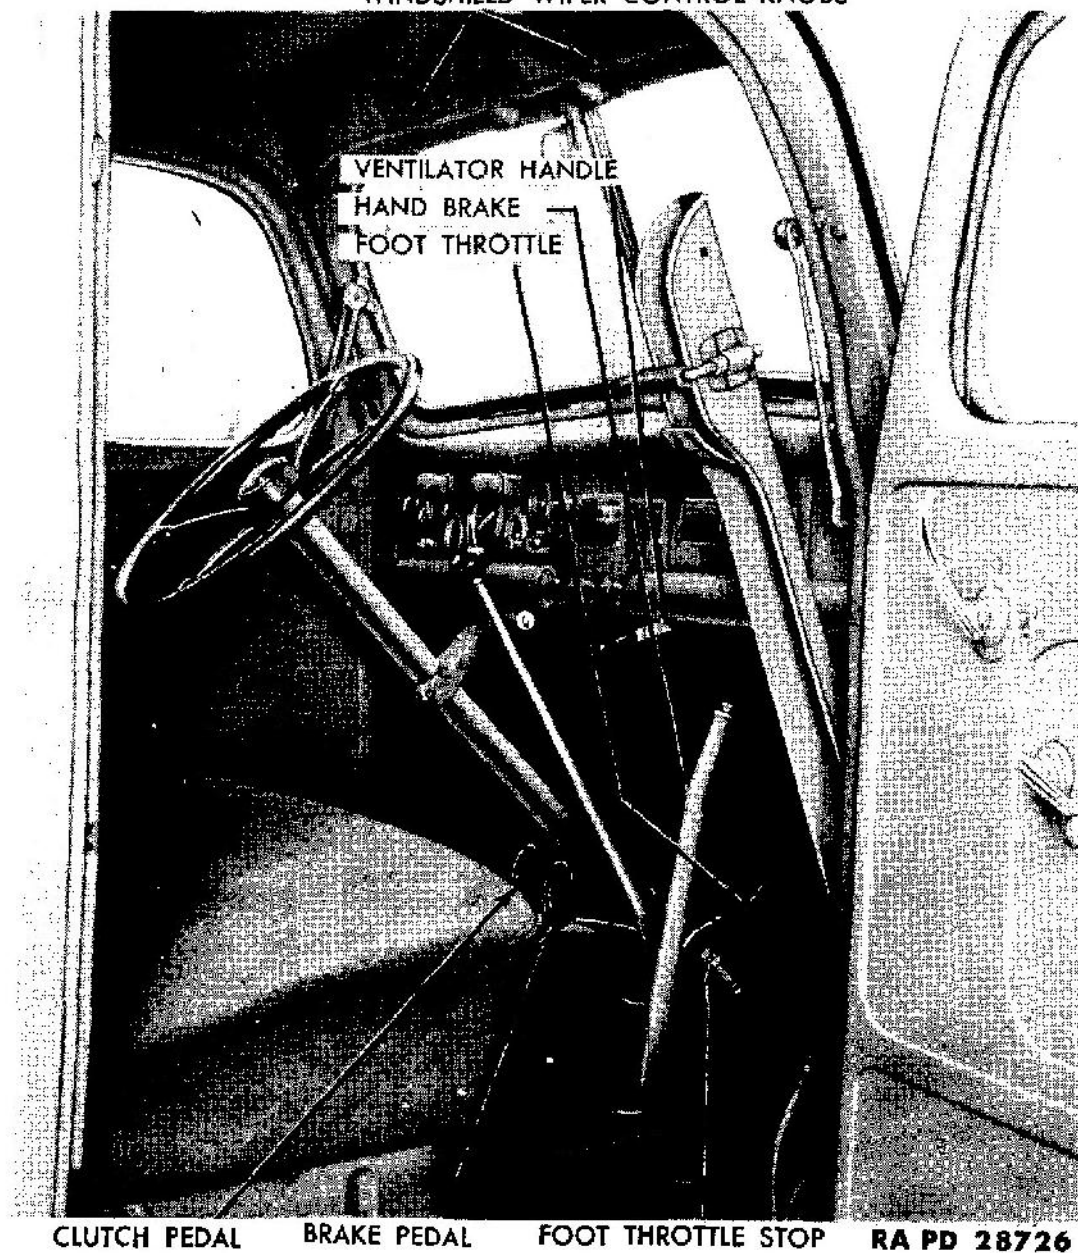

Figure 3 — Driver's Compartment
with dual wheels and tires. The driver's cab is a conventional truck cab equipped with safety glass in doors and windshield. The instruments are located in the instrument panel directly in front of the driver's seat (fig. 3).
b. **Hand Brake Lever (fig. 3).** The hand brake lever is mounted to the right of the gear shift lever directly below the instrument panel. Always be sure the hand brake lever is released before attempting to move the vehicle.
c. **Throttle Controls.** The foot throttle is located to the right of the steering column convenient to the driver's right foot. A foot rest is provided to the right of the foot throttle (fig. 3) to steady the foot while driving. The hand throttle button is located on the instrument panel directly below the ignition switch. Pulling this button out opens the carburetor throttle and increases the engine speed. During cold weather the throttle button should be pulled out approximately $\frac{1}{4}$ inch so that the engine will idle somewhat faster until it is entirely warmed up. The hand throttle can also be used when it is desired to run the engine at constant speed.
i. **Windshield Wipers.** The vehicle is equipped with two vacuum operated wipers. The wipers are controlled by individual push-pull knobs located over each windshield glass (fig. 3). To operate the wiper, pull control knob outward. Speed of operation is regulated by the distance of travel of the control knob.